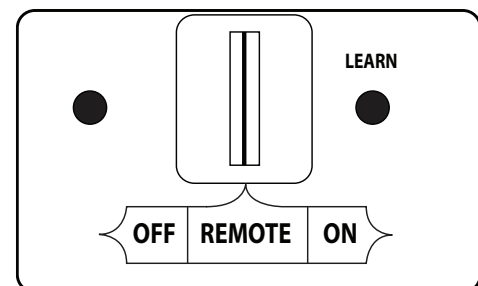

Fig. 27-2 Remote receiver detail (REMOTE)
1. Ensure the pilot is burning. Then locate the 3-position switch on the remote receiver (see Fig. 27-2), and slide the switch to the **REMOTE** position.